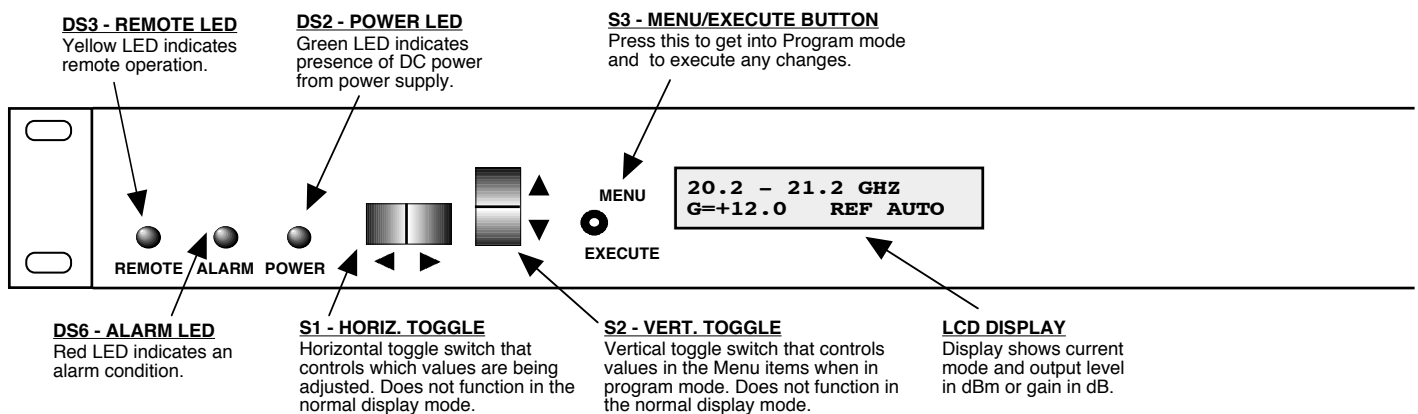

FIGURE 2.2 3115-202#-1700 Front Panel Controls and Indicators
Figure 2.2 shows the front panel controls and indicators.
5. Be sure DS2 (green, DC Power) is on and DS6 (red, Alarm) is off (Figure 2.2).
Alarm indications appear on the LEDs (see Figure 2.2).